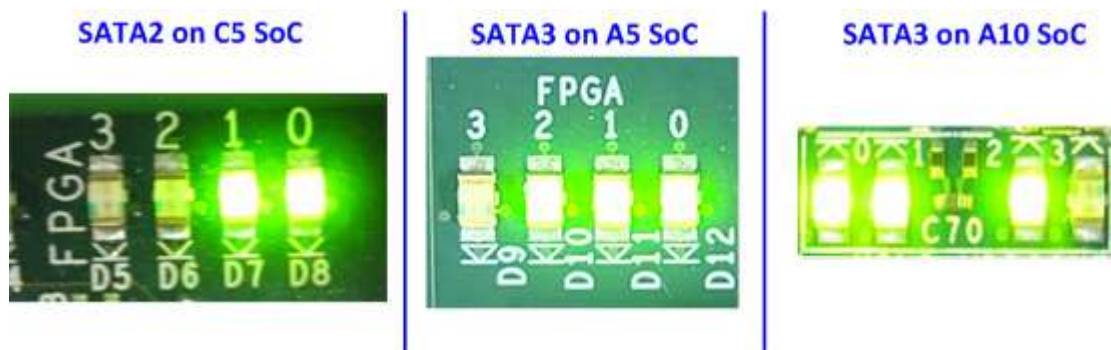

Figure 2-9 LED status after system set up complete on SATA-3/2 speed
- Check LED status on FPGA board now and LED0-1 will turn on while LED2 status depends on SATA speed, as shown in Figure 2-9.